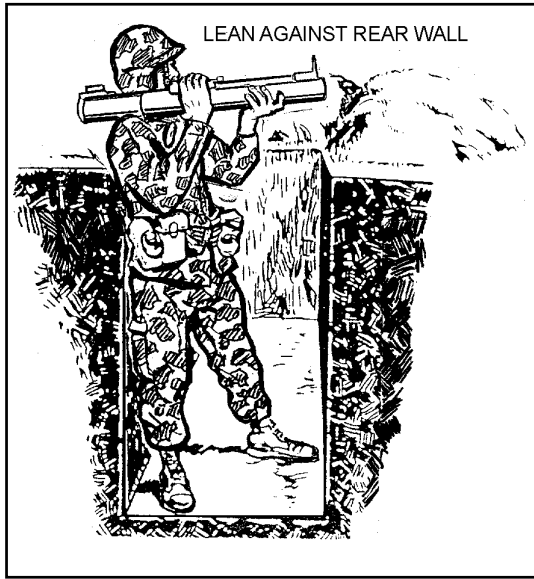
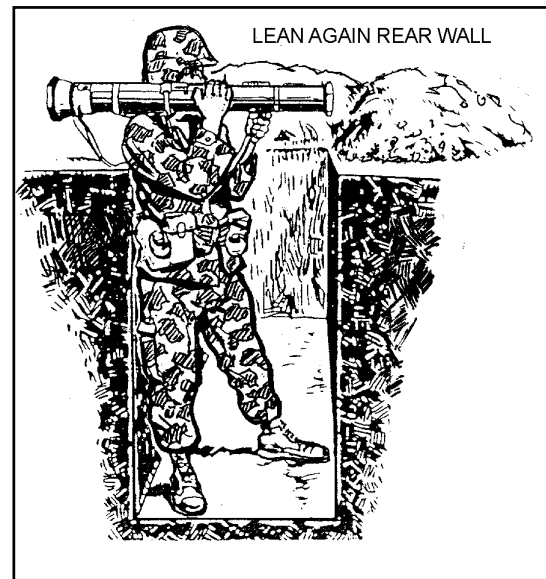

Figure 5-2. Modified standing position, M72-series LAW.
Figure 5-3. Modified standing position, M136 AT4.
b. **Modified Standing Position.** Use this position when you occupy an infantry fighting position. Assume the basic standing position, but instead of stepping forward, lean against the back wall of the fighting position. Ensure that the venturi or rear of the weapon extends beyond the rear of the fighting position. Figure 5-2 shows the modified standing position for the M72-series LAW; Figure 5-3 shows the modified standing position for the M136 AT4. Ensure that **NONE** of the following are in your backblast area: